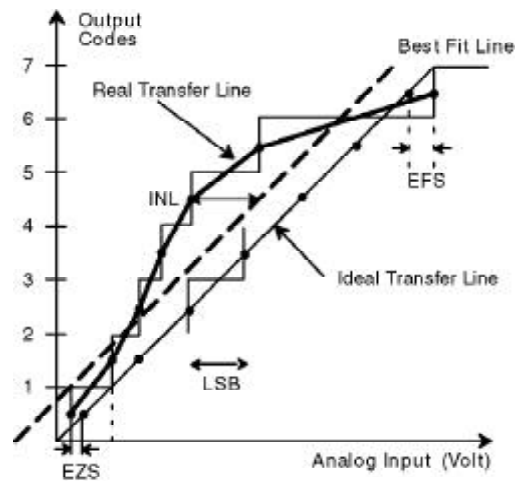
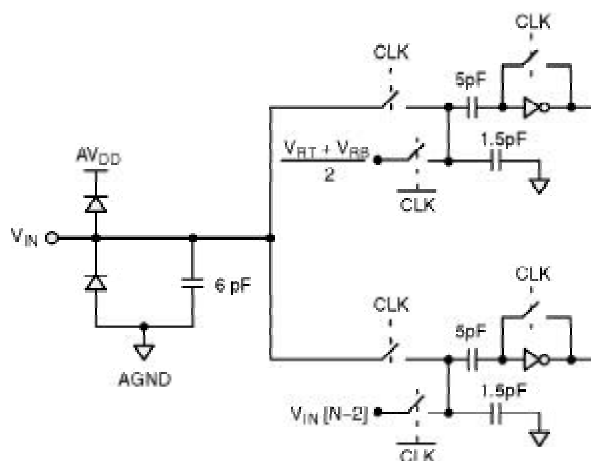

Figure 3. INL Error Calculation
Figure 4. Equivalent Input Circuit
1. The difference between the measured and the ideal code width ($V_{REF}/256$) is the DNL error (Figure 3). The INL error is the maximum distance (in LSBs) from the best fit line to any transition voltage (Figure 4). Accuracy is a function of the sampling rate (FS).